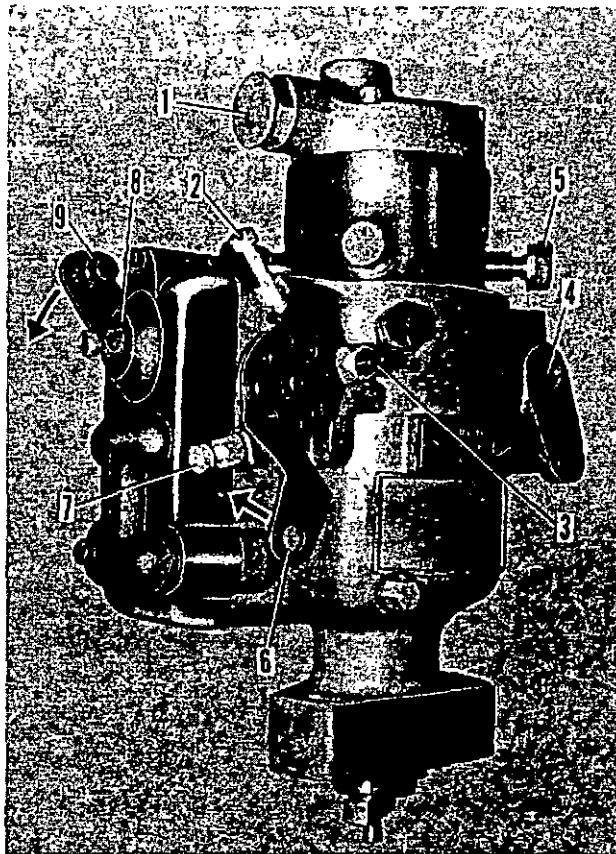

Figure 92
The idling (7) and high speed (2) screws shown on Fig. 92 provide the idling and governed speed adjustments.
Turning the torque-screw in, or clockwise (Fig. 92) will reduce the fuel; turning out or